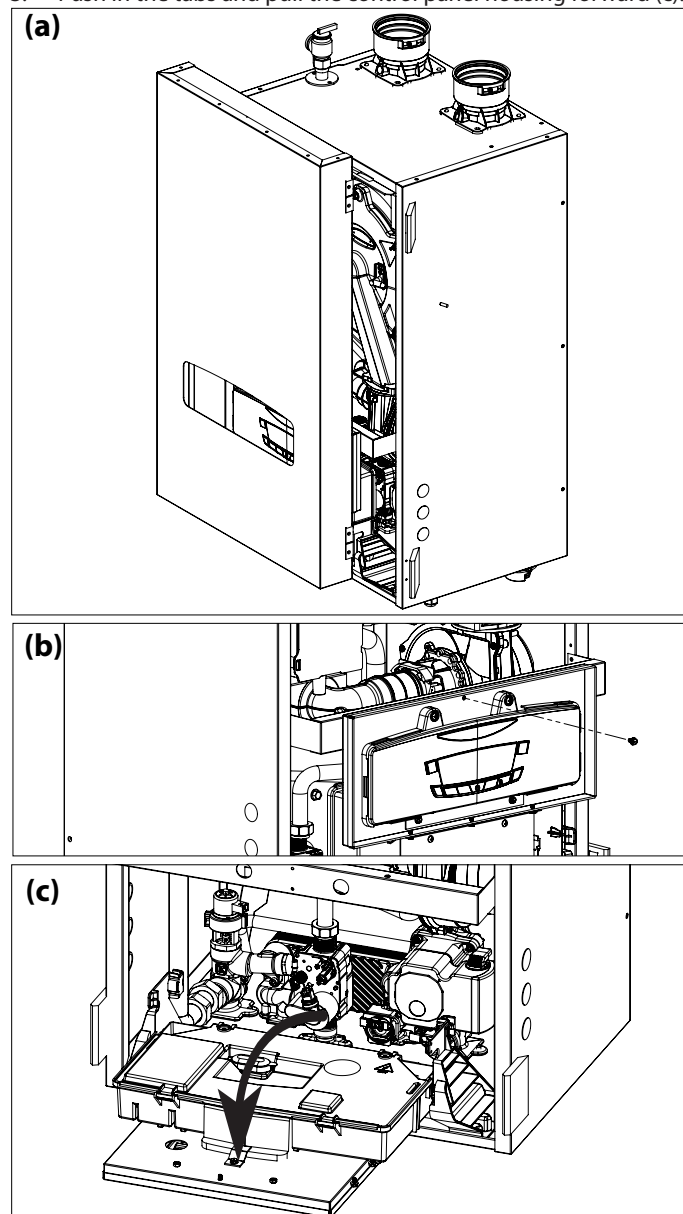

Figure 80 - Removing the Cover and Control Panel Housing
See Figure 80 to access the interior of the boiler:
3. Remove the front panel as shown in Figure 80.